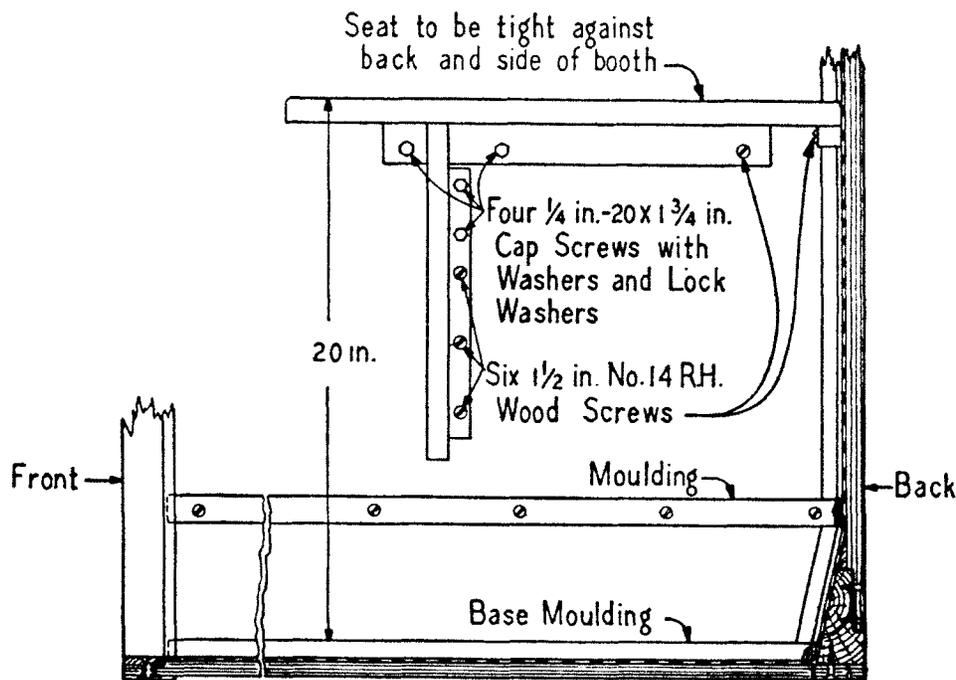

Fig. 8
- 2.10 If booth is equipped with 204A switch, check its operation and if defective replace it. If 204A switch is not available, replace it with a 215 type switch. To do so, remove switch from ceiling, remove 16" cable from light fixture, remove 15A rod from upper hinge on booth door and install 215 type switch (which includes pivot rod and operating rod) as shown in Figs. 8 and 18, Section C44.111.
8.04 If the booth is of war-time manufacture having a wooden base instead of steel and is equipped with a presdwood floor as shown in Fig. 8 and the floor has to be replaced, use a D-170476 floor. The existing moldings and base plates will have to be reused so use care in removing the defective floor.